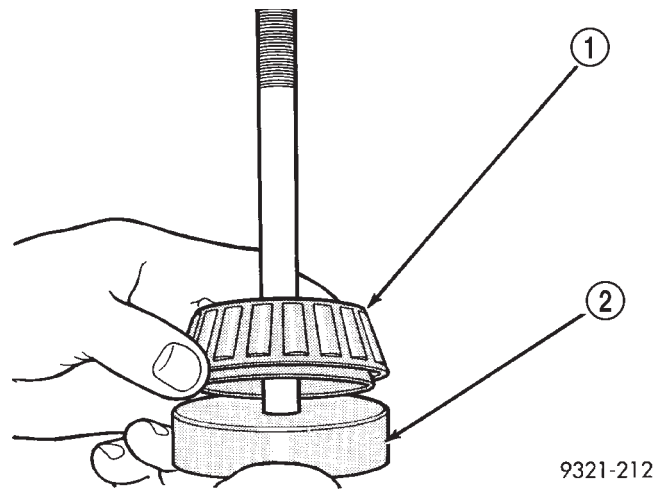

Fig. 391 Gauge Disc and Bearing
(3) Install new front bearing (actual bearing to be used during reassembly) onto gauge disc (special tool 6549-3) (Fig. 391).